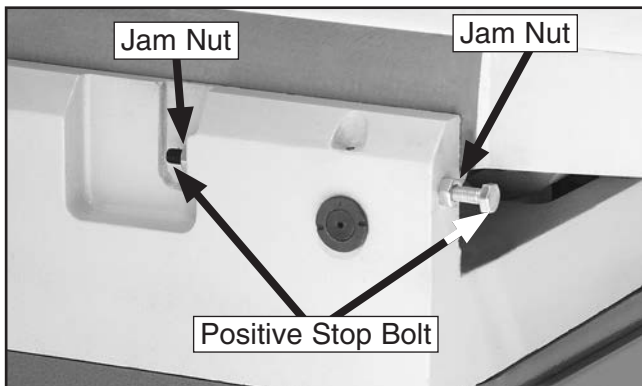

Figure 47. Table positive stop bolts.
3. Loosen the outfeed table lock located at the front of the machine, and loosen the jam nuts and positive stop bolts located at the back of the machine (see **Figure 47**).
4. Loosen the outfeed table lock located at the front of the machine, and loosen the jam nuts and positive stop bolts located at the back of the machine (see **Figure 47**).
6. Tighten the outfeed table lock located at the front of the machine, and tighten the positive stop bolts and jam nuts located at the back of the machine (see **Figure 47**).